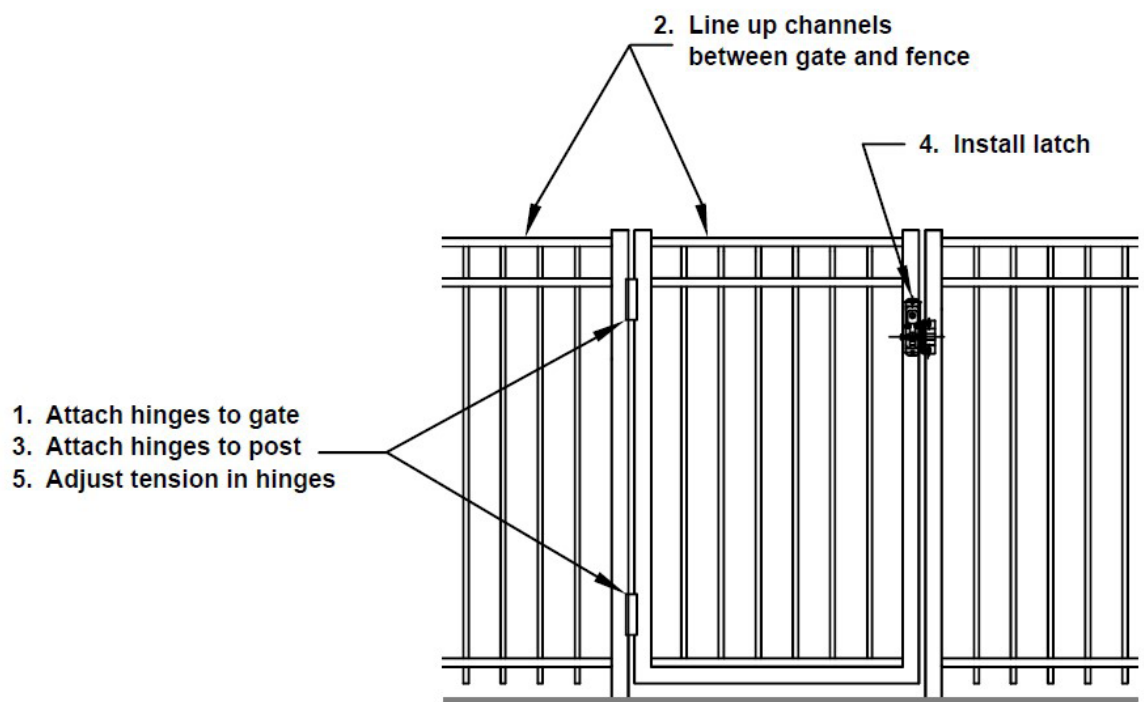

Figure 9
9. Install hinges onto gate and set gate in the opening. Raise gate up until the channels line up, and attach hinges to post. Once hinges are attached, install latch on opposite side of hinges. Finally, adjust the tension in the hinges - just enough to self-close the gate, but not so much that it slams shut - Figure 9